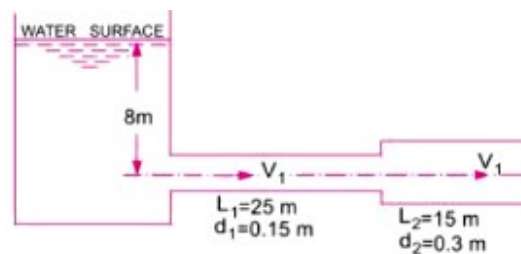

Figure 1
- (b) A 0.4 m diameter pipe conveying water, branches into two pipes of diameters 0.3 m and 0.2 m respectively. If the average velocity in the 0.4 m diameter pipe is 3 m/s. Find the discharge and mass flow rate in this pipe and also find the velocity in 0.2 m if the average velocity in 0.3 m diameter pipe is 2.5 m/s. (10) 1 3
22. (a) A horizontal pipe line 40 m long is connected to a water tank at one end and discharge freely in to the atmosphere at other end as shown in figure 1. For the first 25 m of its length from the tank, the pipe is 150 mm Diameter and its diameter is suddenly enlarged to 300 mm the height of water level in the tank is 8 m Above the centre of the pipe. Consider the all minor losses. Find the discharge in the pipe. Take friction factor is 0.01 for both section. (10) 2 3